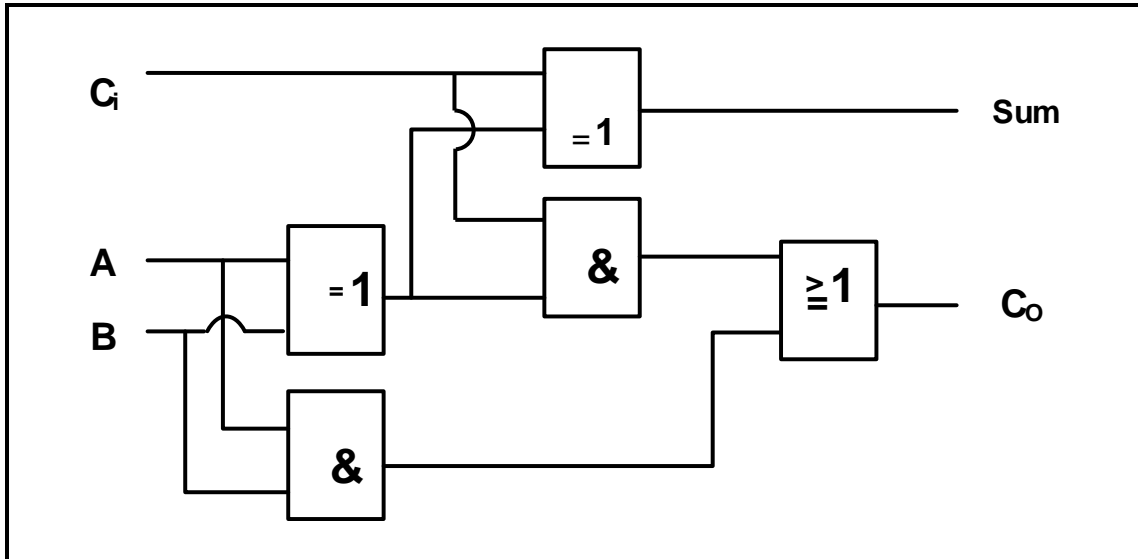

FIGURE 4.4: FULL ADDER
4.4 Study FIGURE 4.4 below of the logic circuit of a full adder using two half-adders and an OR-gate. Use the table on ANSWER SHEET 4.4 to complete the truth table.